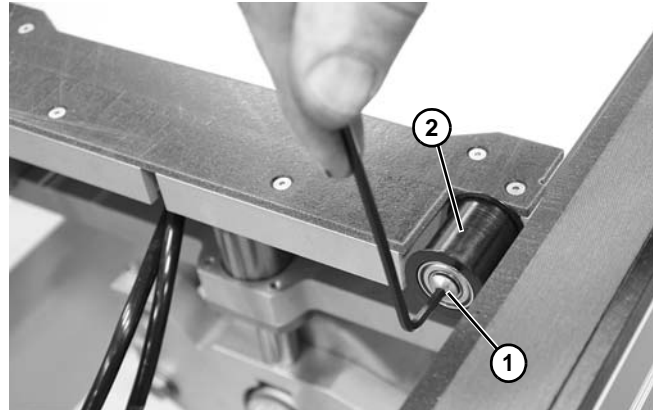

**Figure 137**
2. Remove flat head screws (**Figure 137, item 1**) and wearstrip (**Figure 137, item 2**).